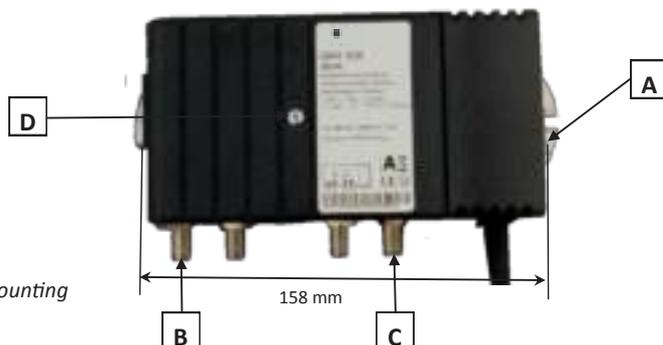

Fig. 1 Mounting
- ☞ Fasten the Amplifier according to its measurements (See Fig. 1.) on the wall. (Screws- $\varnothing$  max. 4.8 mm, Distance between holes 158 mm)
Remove the top cover of the Amplifier by removing screw D (see Fig. 1)